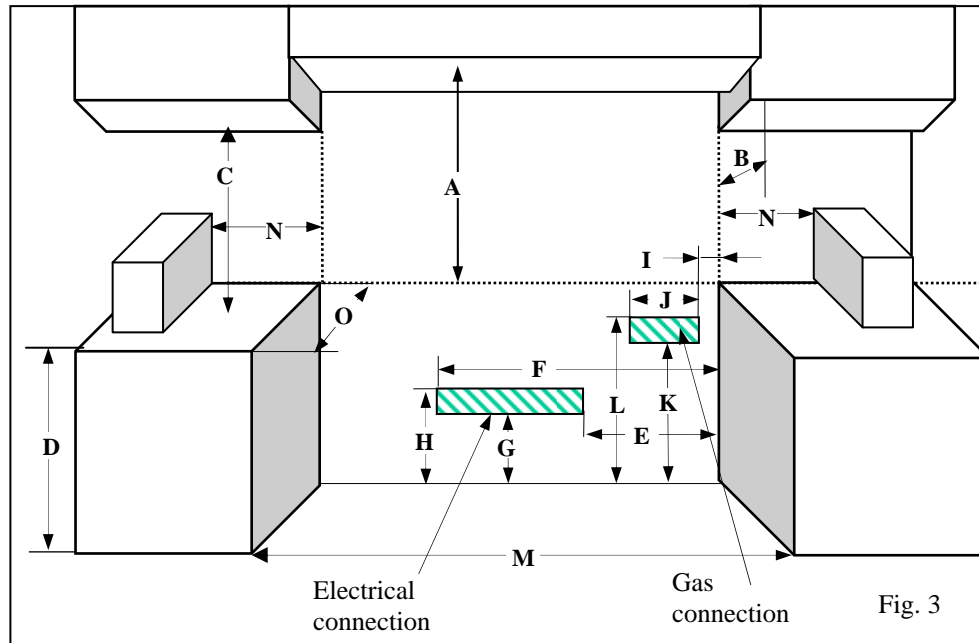

Fig. 3
Fig. 3 a
- The range is a free standing unit. If the unit is to be placed next to cabinets, the clearances shown in Figure 3, 3a, 3b, 3c & 3d are required.